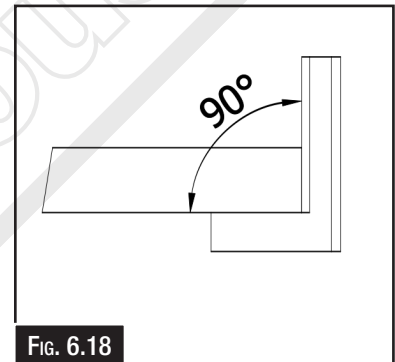

FIG. 6.18
1. Replace with a new blade and check for squareness. The workpiece should be as per (Fig. 6.18)